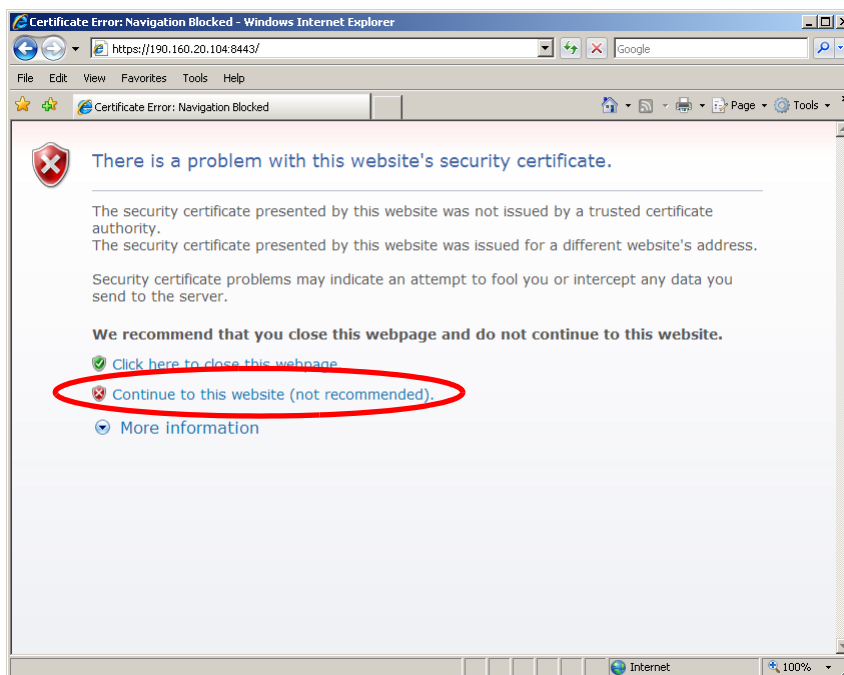
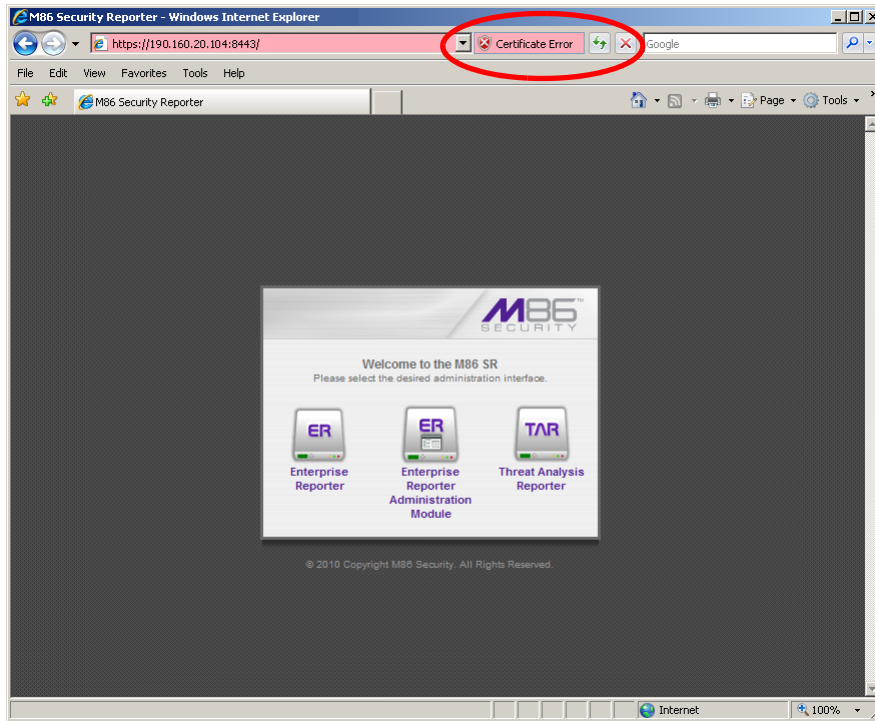

Figure A1: Windows XP, IE 7
Figure A2: Windows XP, IE 7
- When the security issue page re-displays with the message: "There is a problem with this website's security certificate.", click **Continue to this website (not recommended)** (see Figure A1). Choosing this option displays the SR Welcome window with the address field and the Certificate Error button to the right of the field shaded a reddish color (see Figure A2).